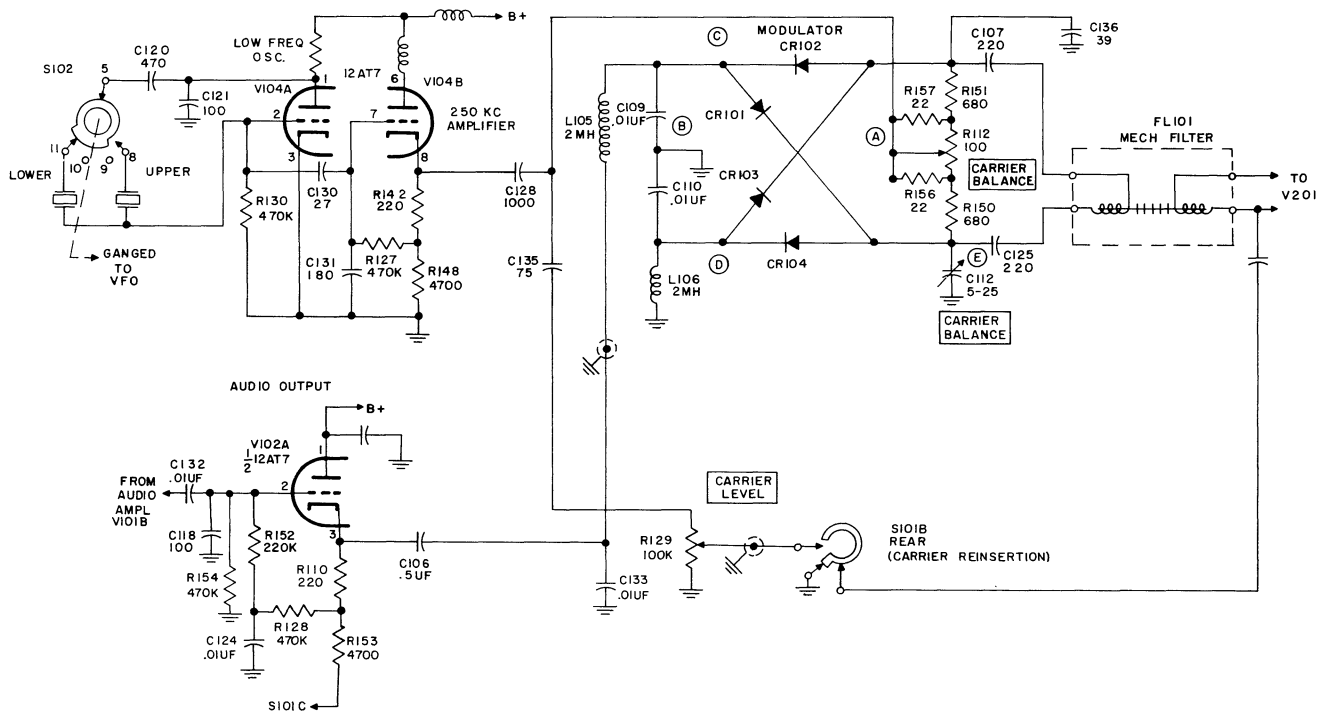

Figure 4-3. LFO, Balanced Modulator and FL101 Mechanical Filter, Simplified Schematic Diagram
4.2.1.2. LFO, BALANCED MODULATOR AND FL101 MECHANICAL FILTER CIRCUITS. Development of the 250-kc carrier frequency in the KWS-1 Transmitting System is accomplished by a crystal controlled oscillator stage, V104. Figure 4-3 is a simplified schematic diagram to show only oscillator V104, the balanced modulator, FL101 Mechanical Filter, and the audio output cathode follower stage. This diagram may be used to study the KWS-1 methods of carrier development, modulation and filtering relative to single sideband transmission.
(4) **SIDEBAND SELECTION.** The operator has the choice of transmitting on either the upper or lower sideband. The selection is accomplished by switch S102 (see figure 4-3). The KWS-1 normally operates on the lower sideband, however, if S102 is switched to the U, or upper, position, the action selects the "UPPER" sideband crystal for the V104 250-kc oscillator, to change the output frequency of V104 by 3 kc. This is the same bandwidth as the FL101 Mechanical Filter output. In order to maintain the proper frequency relationships between the vfo and the 250 kc lfo, S102 is mechanically ganged to the vfo can. Adjustment of S102 to either sideband automatically adjusts the vfo output 3 kc in the opposite direction from the lfo adjustment. Thus if the lfo is adjusted down, the vfo is adjusted up 3 kc in their respective frequency ranges, to maintain proper output frequency in the overall KWS-1 Transmitter.
For both cw and AM, a portion of the 250-kc carrier must be reinserted into the r-f circuits. This is accomplished by taking a part of the carrier frequency off the V104B cathode through condensers C128 and C135. (See figure 4-3.) This is fed through the CARRIER LEVEL control potentiometer R129, by which the operator may adjust the desired amount of reinserted carrier. The signal is then fed through switch S101B and C117 to the output side of Mechanical Filter FL101, through the filter output transducer coil to the V201 first mixer control grid.